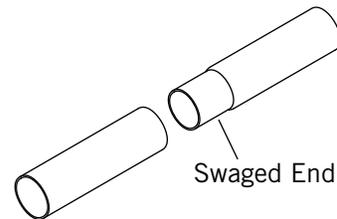

Figure 21-2
- 2) **Figures 21-2 & 21-3.** Assemble swaged ends of roll pipe and weld sections together.